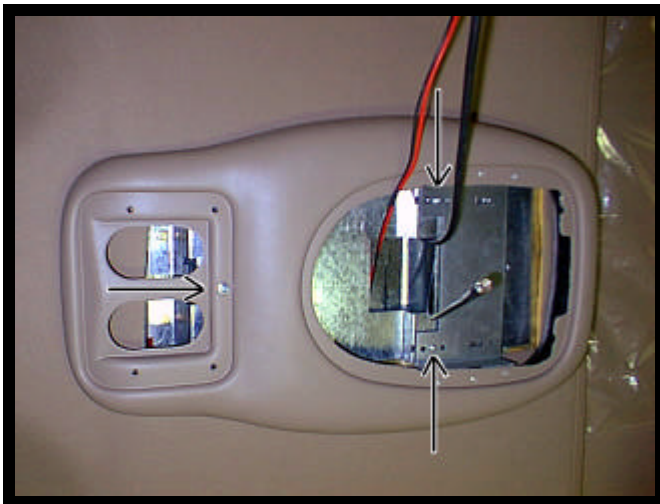

FIGURE 7
13. Raise console (item 6 pg.2) into approximate position against headliner. Loosely install using (2) two 6-32 x 3/4" screws (item 1 pg. 2) through the smaller holes in bracket on console into threaded clips on front of mounting bracket. See Figure 7.
14. Using a scribe or similar tool, align hole in rear of console with slot in rear of mounting bracket. Loosely secure rear of console using (1) one # 8 x 1 1/2" screw (item 3 pg. 2). Make sure console alignment is straight then tighten (2) two 6-32 screws previously installed. See Figure 7.